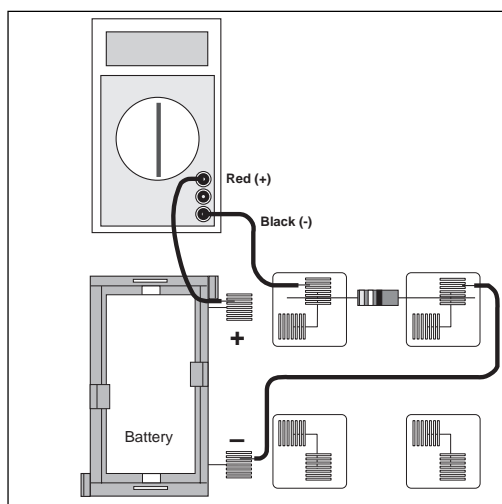

Figure 3.1a
- ① Choose one of the resistors that you have been given. Using the chart on the next page, decode the resistance value and record that value in the first column of Table 3.1.
- ② **MEASURING CURRENT:** Construct the circuit shown in Figure 3.1a by pressing the leads of the resistor into two of the springs in the Experimental Section on the Circuits Experiment Board.